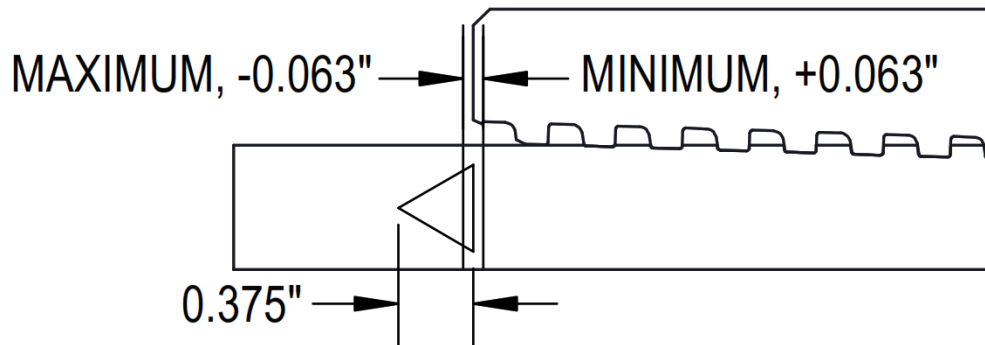

Figure 5: Triangle Stamp Criteria
- 4.6 If torque-turn monitoring is not used for make-up, verify the coupling face is at the base of the triangle stamp $\pm 1/16$ " after applying make-up torque. See Figure 5.